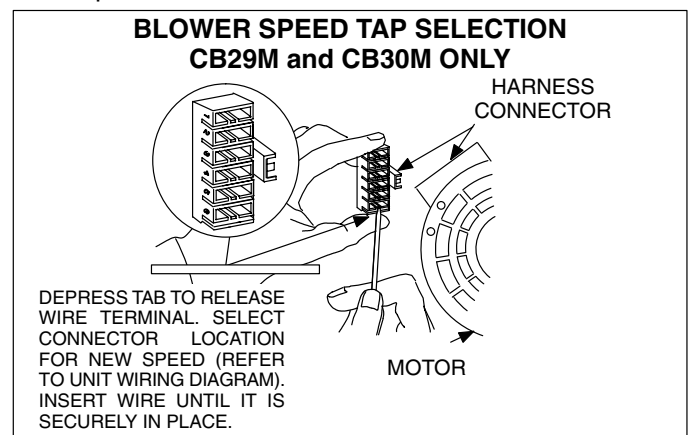

FIGURE 26
- 5- Depress harness connector tab to release wire terminal. Select connector location for new speed (refer to unit wiring diagram). Insert wire terminal until it is securely in place. See figure 26.